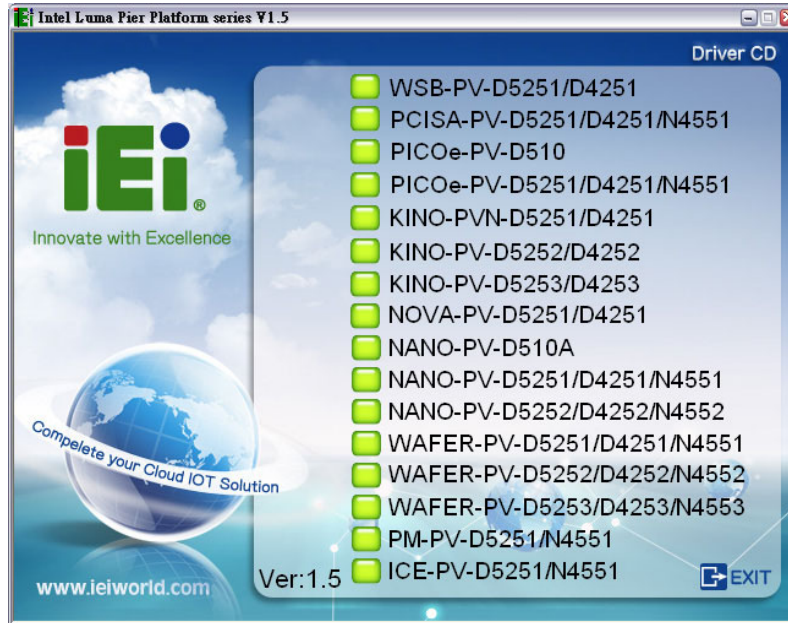

Figure 4-18: Introduction Screen
- Step 2:** The driver main menu appears (**Figure 4-18**).